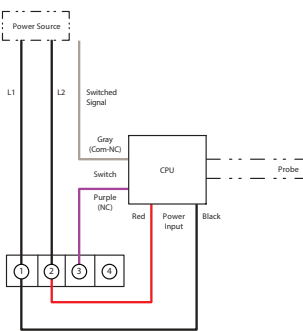

Figure 2: Wiring Option 1*: Interfering Communication Line
5. Wiring Option 1*: Interfering Communication Line (Figure 2)
- Cut the communication wire of the indoor unit. Connect "COM-NC" and "NC" wires as shown in Figure 2. Insulate the exposed "COM-NO" and "NO" wire using insulating tape.